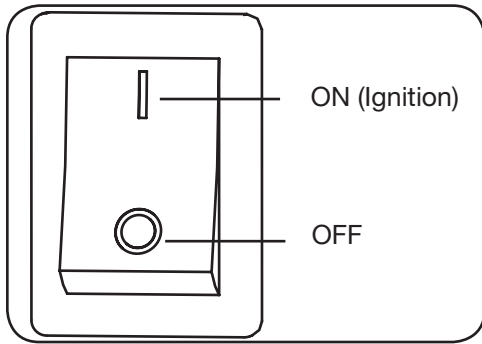

Figure 3-3
5. If equipped with an emergency stop control switch, make sure that the emergency stop control is set to the ON position, represented by the solid line while attempting to start the engine. See Figure 3-3.
To stop the running engine using the emergency stop control, move the switch to the OFF position, represented by the circle. See Figure 3-3.